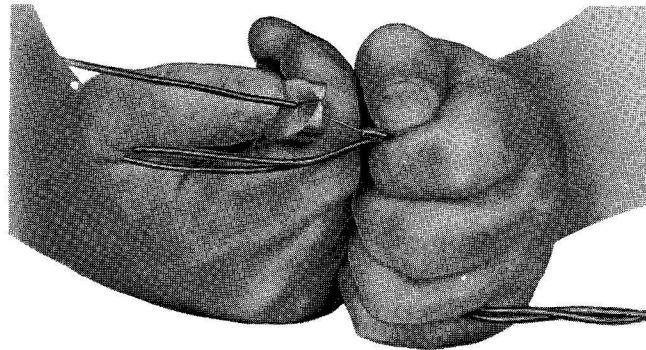

Fig. 11 — Skinning Twisted Wire
6. SKINNING CONDUCTORS (Fig. 11, 12, and 13)